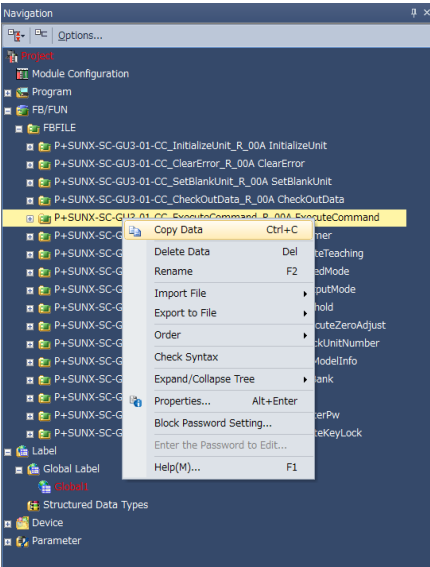

Figure 5.2-1 FB: Copying a FB
- Right-click the FB you want to use also for the second master/local modules and copy the data. (Figure 5.2-1)